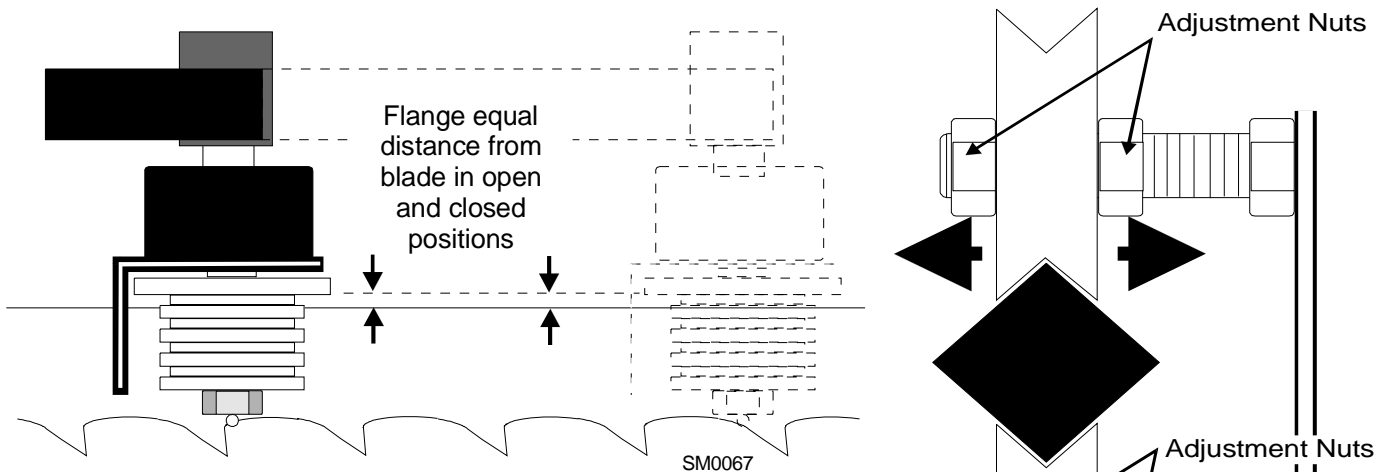

FIG. 5-9
2. Close the throat to within 1/2" (15 mm) from fully closed. Check to see that the flange is the same distance from the back of the blade. **See Figure 5-9.**